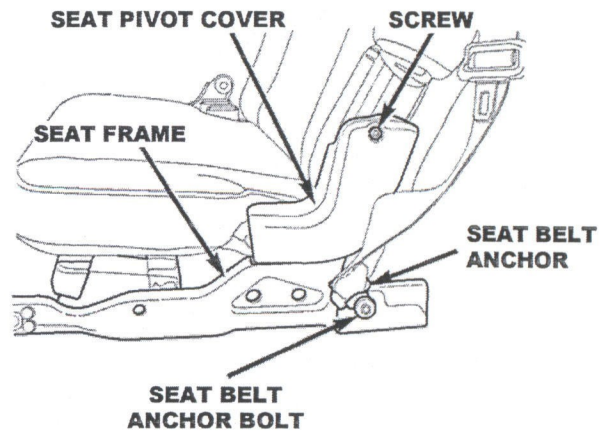

Figure 5 – LEFT THIRD ROW SEAT
10. Remove the bolt holding the seat belt lower anchor to the outboard rear corner of the third row seat support bracket. (Figure 5)
14. Remove the screw for the seat pivot trim cover and remove cover (Figure 5).
42. Install the bolt holding the seat belt lower anchor (Figure 4) to the outboard rear corner of the third row seat support bracket. Tighten to 32 ft-lbs (43 N·m) (Figure 5).